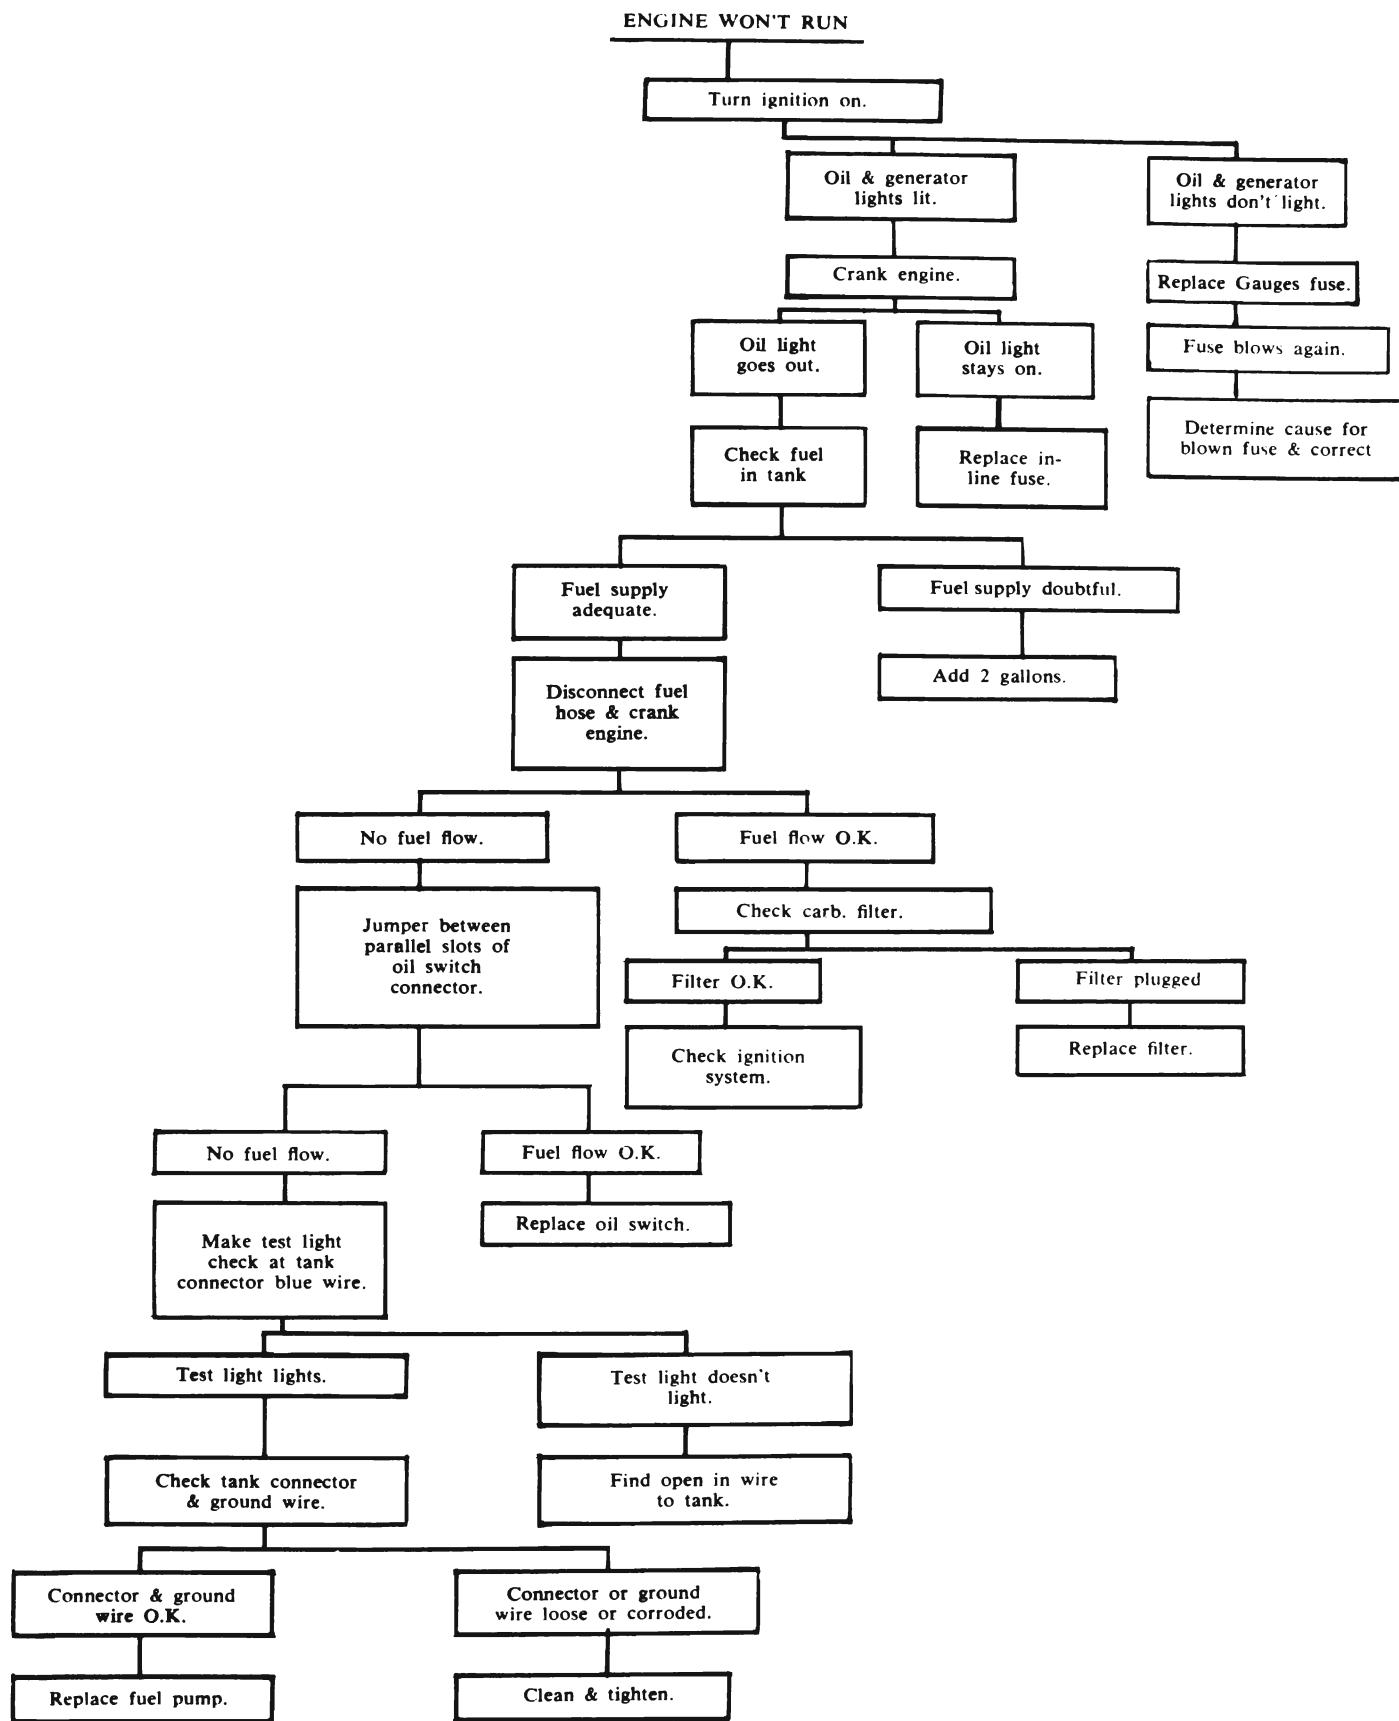

Figure 64-12 - Electric Fuel Pump Trouble Diagnosis
c. Engine Won't Run (Electric Fuel Pump) (See Figure 64-12)